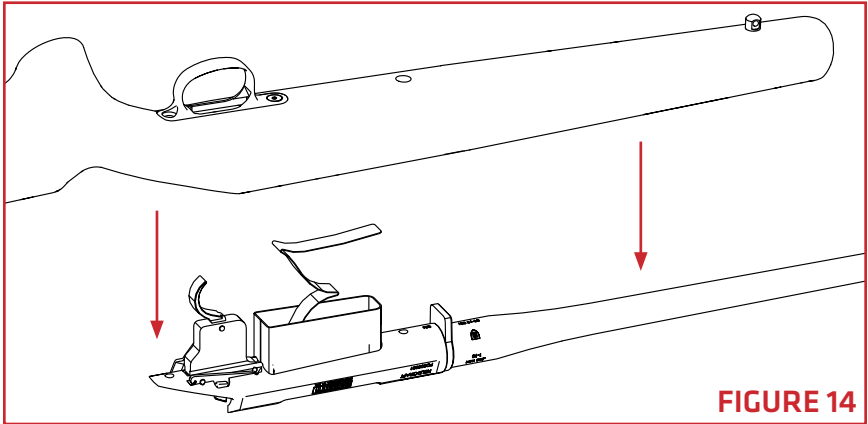

FIGURE 14
- Carefully separate the stock and the action (FIGURE 14).